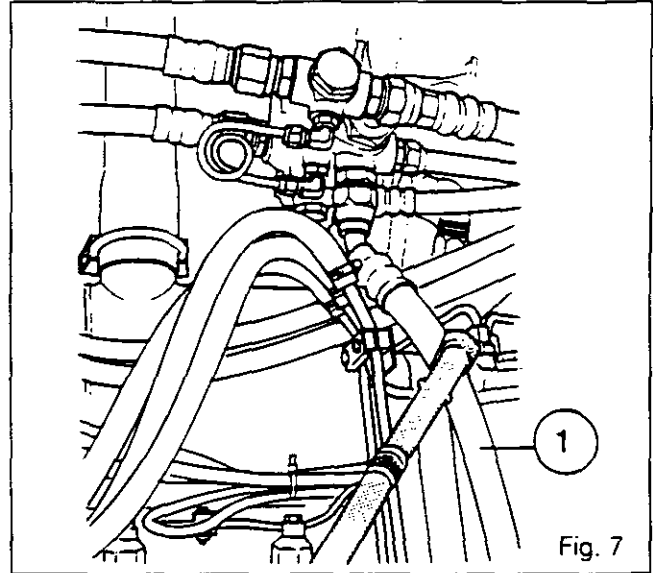

Fig. 7
1. Run the engine at approximately 1,200 rpm and restrict the return hose (1) (see Fig. 7) with suitably protected pliers or clamp.